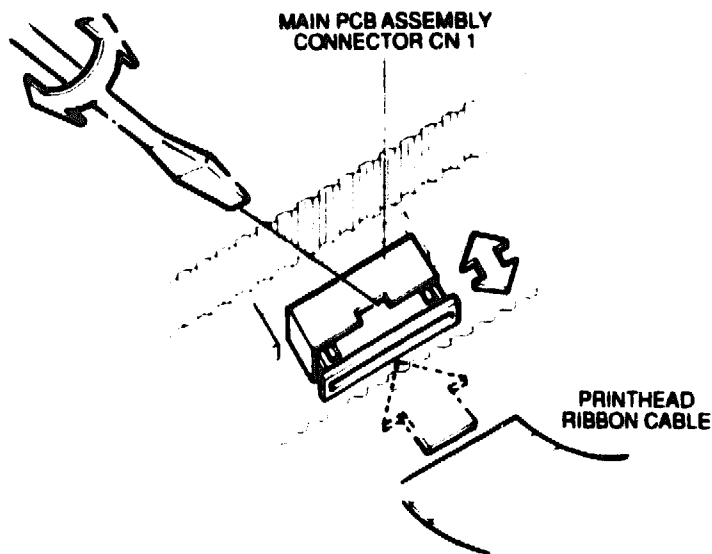

Figure 6-10 Removing the Printhead Ribbon Cable
9. Release the printhead ribbon cable clamp at CN1 on Main PCB kit as shown in Figure 6-10.